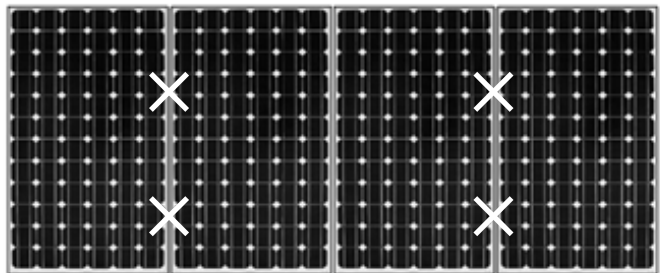

Figure 16
1) When there is an even number of PV Module in each row: Install the grounding clips at the positions marked X in the Figure shown. Then the number of Grounding Clips = number of PV Module. Eg: 4 grounding clips as shown in Figure 16.